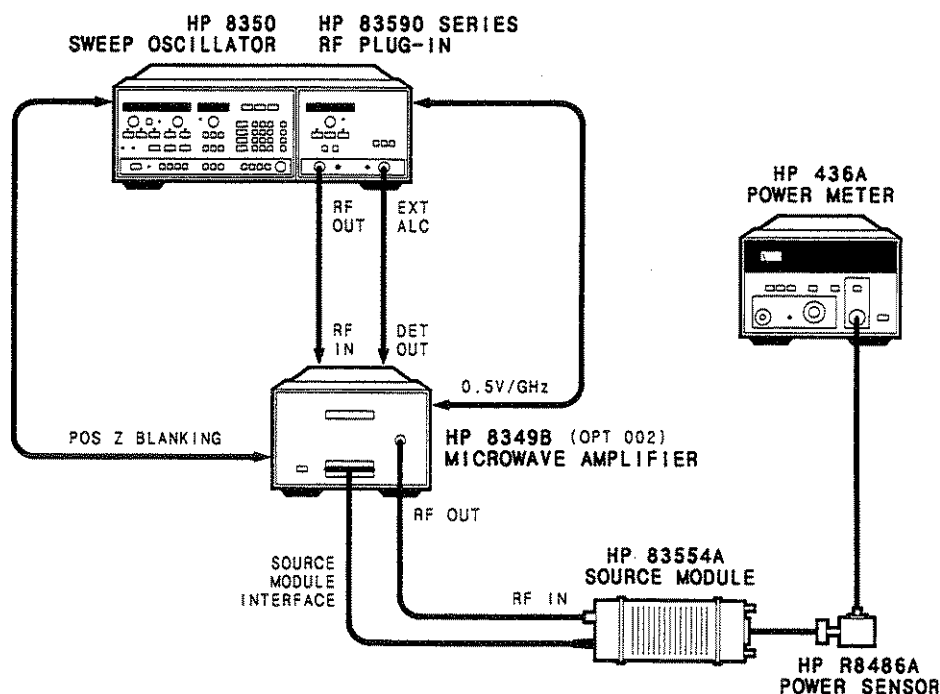

Figure 2-5. System Configuration
1. Connect the equipment as shown in Figure 2-5. Do not connect the HP R8486A power sensor to the HP 83554A output.